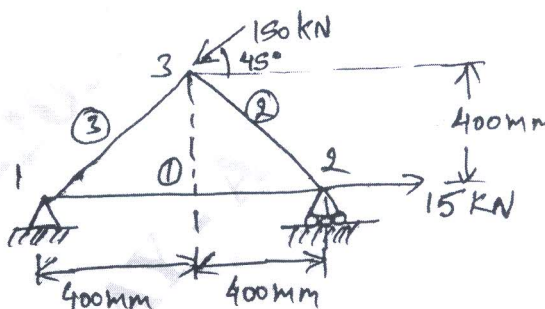

Fig Q6(b) (10 Marks)
- b. Consider the three bar truss shown in Fig Q6(b). Determine the nodal displacements and stresses in each member. Find the support reaction also, $A_1 = 1500\text{mm}^2$, $A_2 = A_3 = 2000\text{mm}^2$ and $E = 200\text{GPa}$.